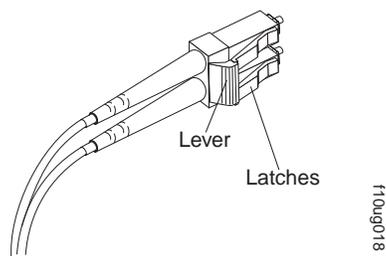

Figure 35. LC-LC fibre-channel cable lever and latches
1. On the end of the cable that connects into the LC connector end of the LC-SC cable adapter, press down and hold the lever to release the latches. Figure 35 shows the location of the lever and latches.